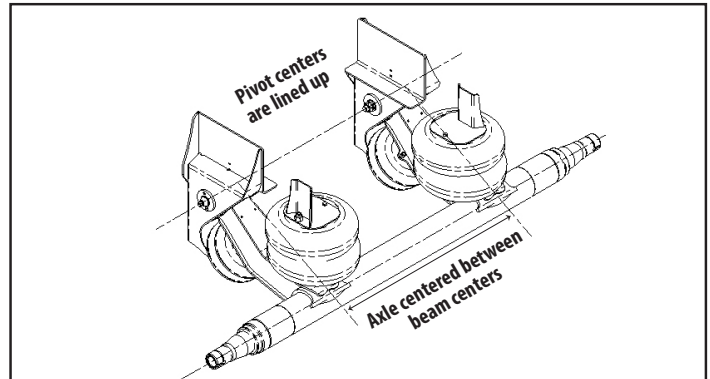

Figure 4.
- Center the axle assembly on the beams (Figure 4).